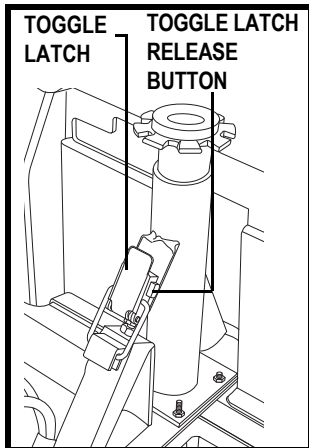

Figure 15. Toggle Latch (Latched)
1. Push in the toggle latch release button while pulling back the toggle latch. See figures 15 and 15A.